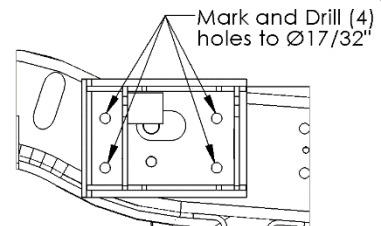

Figure 11. Mark and drill these four holes
3. Mark and drill the (4) four Upper Strut Mount holes to Ø17/32" into the side of the frame. See Figure 11